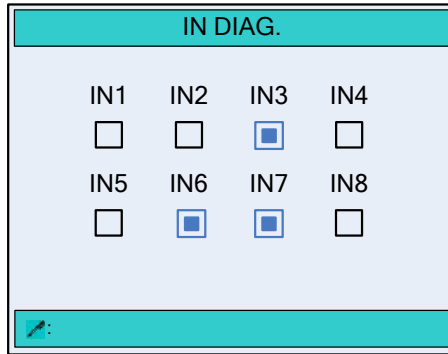

Figure 4-2 The IN DIAG. page
On the **DIAGNOSE** page, move the cursor to parameter **1.IN DIAG.** (or press the number key 1), and press  to enter the **IN DIAG.** page, as shown in Figure 4-2.